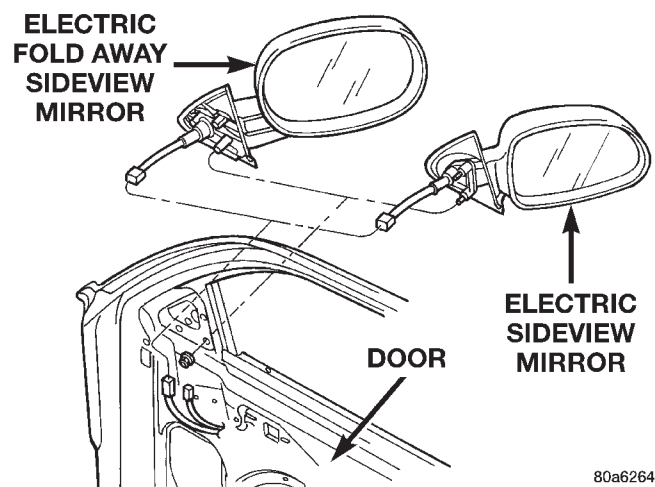

Fig. 7 Power Mirror Remove/Install
(3) Unplug the wire harness connector from the power mirror (Fig. 7).